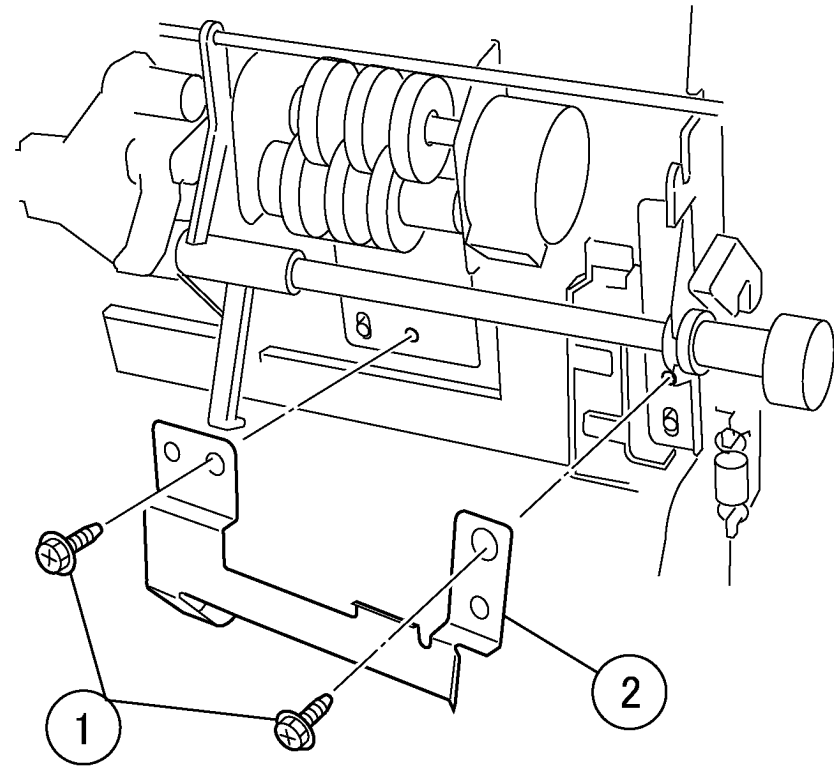

Figure 3 Removing the Plate Spring
5. Remove the Plate Spring. (Figure 3)